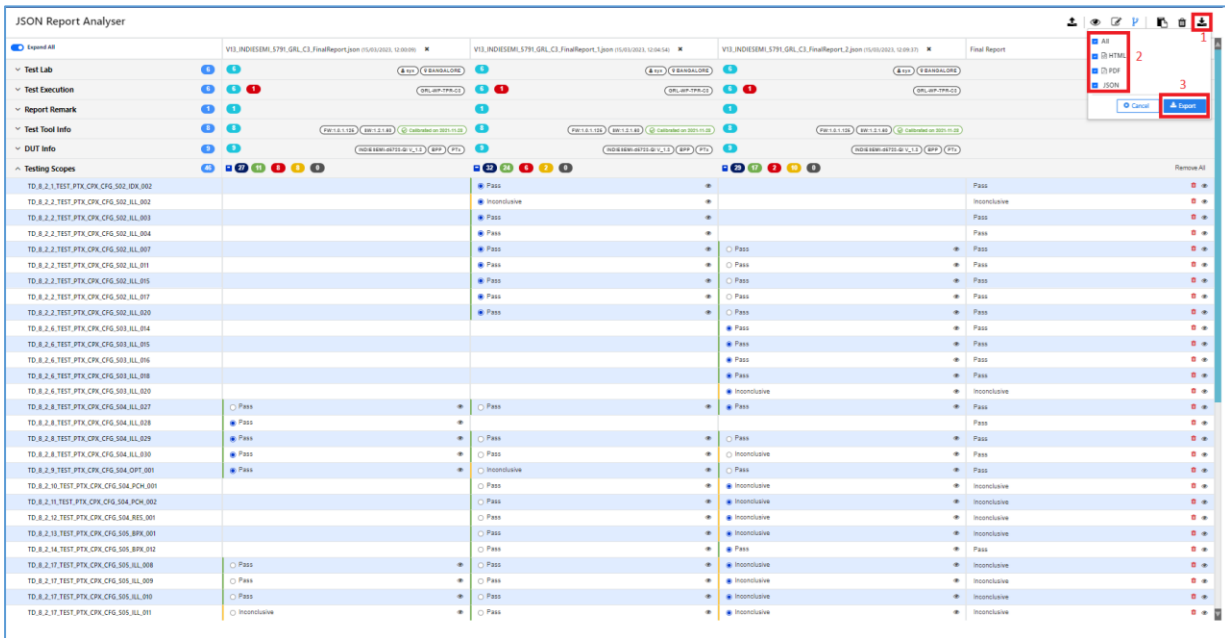

FIGURE 8.90: DOWNLOAD/EXPORT JSON REPORT FILES
1. Click on the Download icon  at the top right of the JSON Report Analyzer screen as shown in Figure 8.90 below.